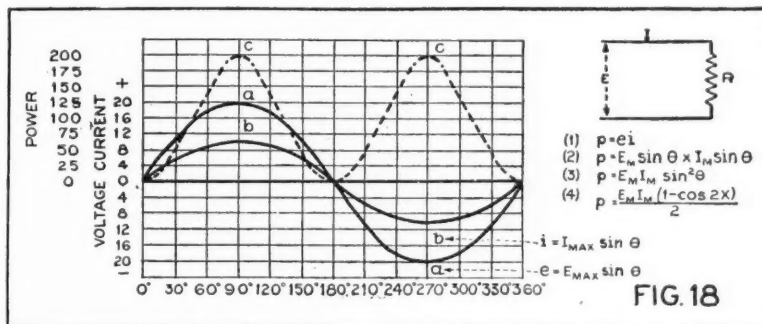

FIG. 18
With reference to Figure 18, let us study the relation of the voltage and current through a resistance and the power consumed. Curve (a) represents the instantaneous voltage impressed on the circuit and is drawn for a maximum voltage equal to 20. Curve (b) represents the instantaneous current through the resistance and is drawn for a maximum current equal to 10. Since the power is
the product of these two instantaneous values, we can substitute their respective values in equation (1) of Figure 18 and obtain the expression as indicated in equation (2). Multiplying this, we have that the power is the product of the maximum values of the voltage and current and the square of the sine of the angle, as shown in equation (3).
Continuing this analysis a little further, let us assume that the angle y is equal to the angle x. In a similar manner to the above, we can prove that the cosine of the sum of two angles is as indicated in equation (5). Now, if y equals x, the relation of equation (6) is obtained. Substituting for the equivalent value of the square of the cosine of the angle, and transposing, we obtain the expression of equation (7). We thus have an expression for the square of the sine of an angle which can be used in equation (3) of Figure 18, and we can now proceed with the analysis of this circuit. The above expressions are very important in trigonometry and are often encountered in practice, as is evident in the present analysis.
With reference to equation (3), Figure 18, we can substitute the value of the square of the sine of the angle already obtained and the expression of equation (Continued on page 430)